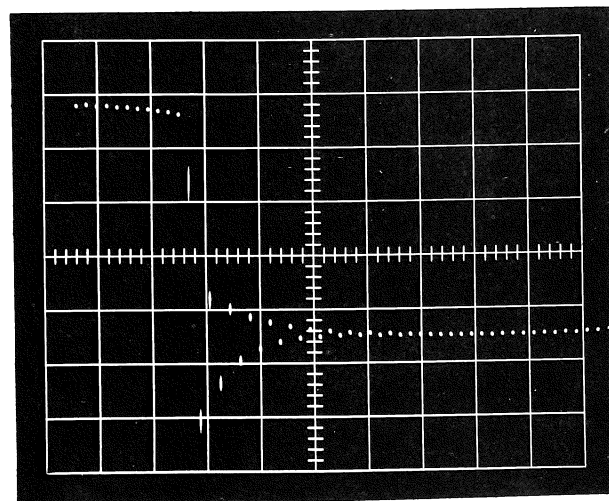

Fig. 5-8. Loop gain slightly greater than unity.
b. Use Channel A first. Turn the SMOOTHING control slowly clockwise past midrange until the first few dots of the display begin to disperse as shown in Fig. 5-8.